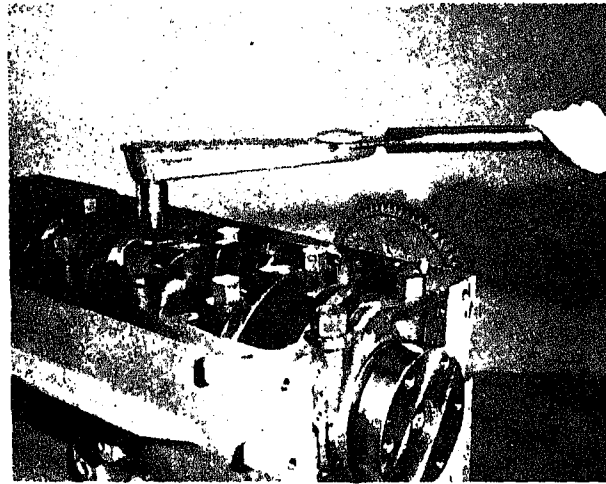

Fig. 14-1-4. Torquing main bearing capscrews
1. Tighten main bearing capscrews alternately to 65/75 ft. lbs. [8.9895/10.3425 kg m] to set shells, caps and lockplates; then advance to 140/150 ft. lbs. [19.3620/20.7450 kg m], Fig. 14-1-4.